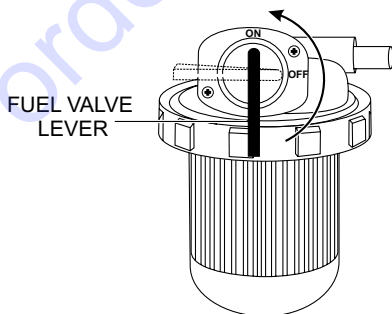

Figure 20. Fuel Valve Lever (ON)
2. Place the fuel valve lever (Figure 20) in the **ON** position.